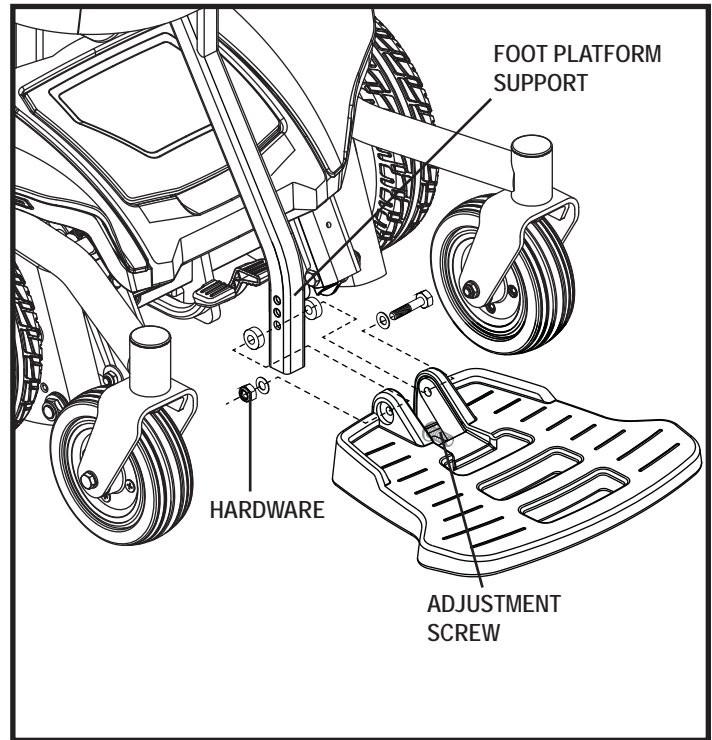

Figure 11. Foot Platform Adjustment
1. Remove the hardware from the foot platform support. **See figure 11.**
You can adjust the angle of the foot platform. **See figure 11.**